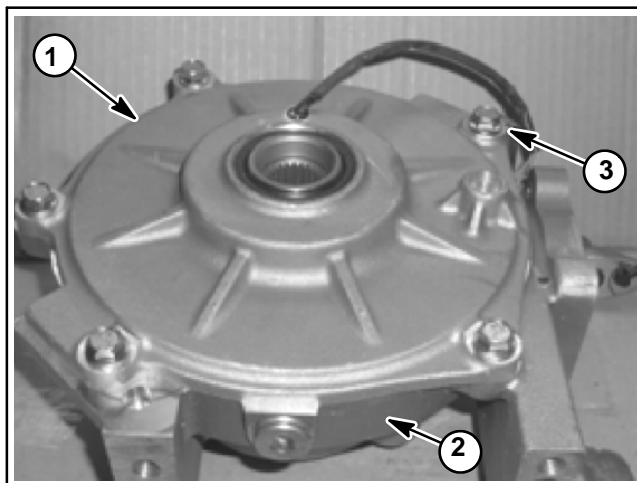

Figure 14
6. Remove the five (5) flange head screws that secure cover plate to gear case. Note location of plug clip for assembly purposes (Fig. 14). Carefully remove the cover plate from the gear case by lifting straight up.